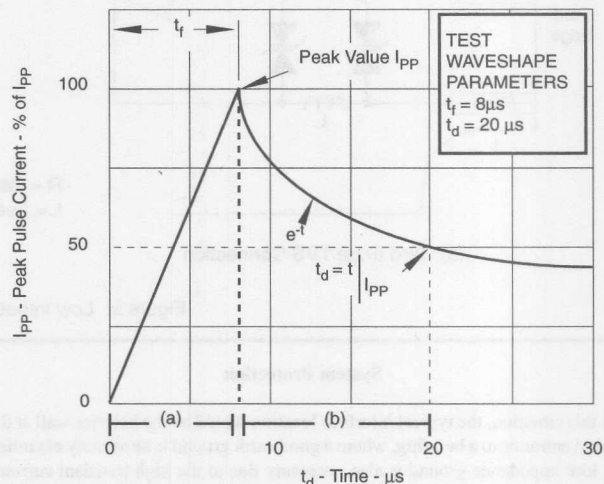

Figure 1: 8/20 μ s Pulse Waveshape
2) **Peak Pulse Current:** Another important TVS criterion, is the maximum peak pulse current (I_{PP}) rating, which defines the maximum current handling capability for a given pulse duration (t_d). The current handling capability, which is referenced to a specific waveshape, is not a constant over time. A pulse duration (t_d) is defined as the front time plus its fall time. Front time is characterized by the length of time needed for the peak pulse current (I_{PP}) to reach its peak value as shown in Fig. 1, (a). The fall time is characterized as the length of time needed for the peak pulse current to reach 50% of its peak value as shown in Fig. 1, (b). The TVS maximum peak pulse current rating must be higher than the anticipated surge current.² These parameters are important in that the TVS must be capable of diverting the transient current without shorting and also providing a low clamping voltage for the protection of a circuit/system or IC component.³